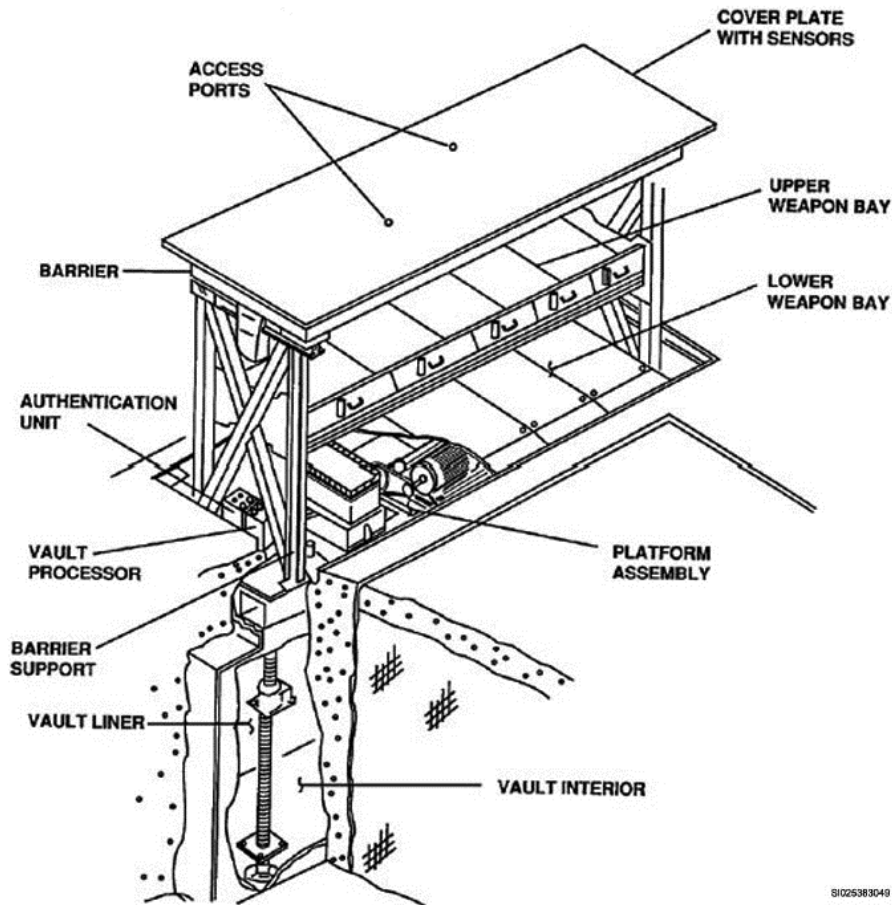

Figure 2-14. Vault assembly.
- Vault assembly with sensors (fig. 2-14).